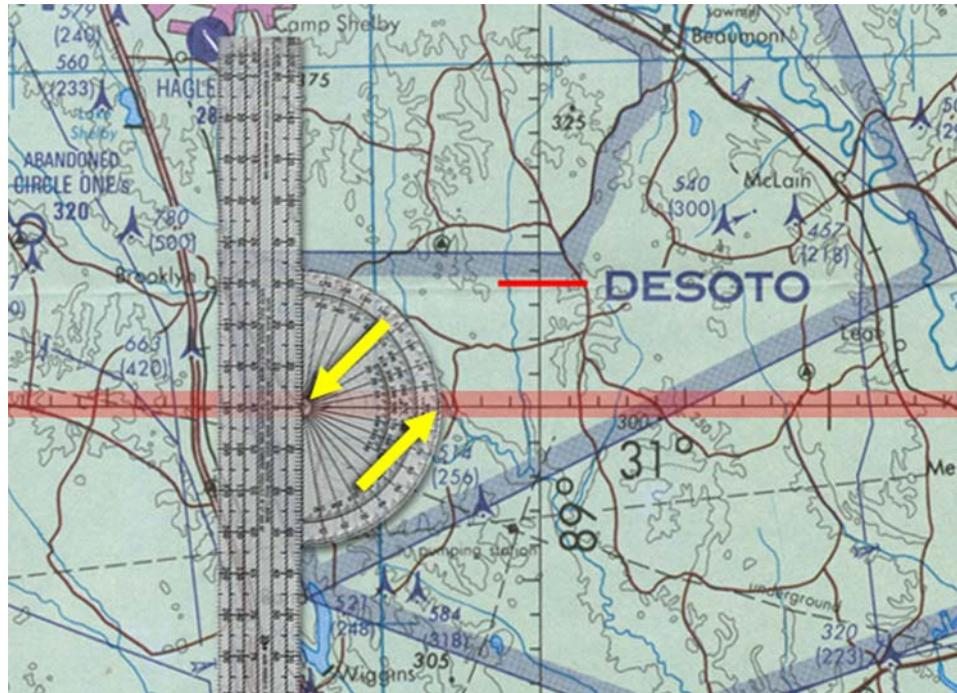

Figure 4.2-16 Longitude
4. To determine the Longitude coordinate, repeat steps 1 through 3 above aligning the plotter to a parallel instead of a meridian (Figure 4.2-16).